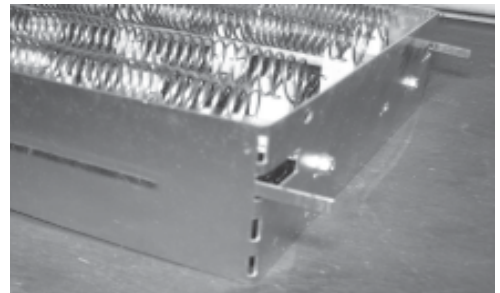

Fig. 1 - Alignment tabs.
4. The use of heater alignment tabs is optional. These alignment tabs are located on the endcap. To use the tabs, bend these 90 degrees out and slide into the alignment holes of the air handler (see fig 1 & 2.)